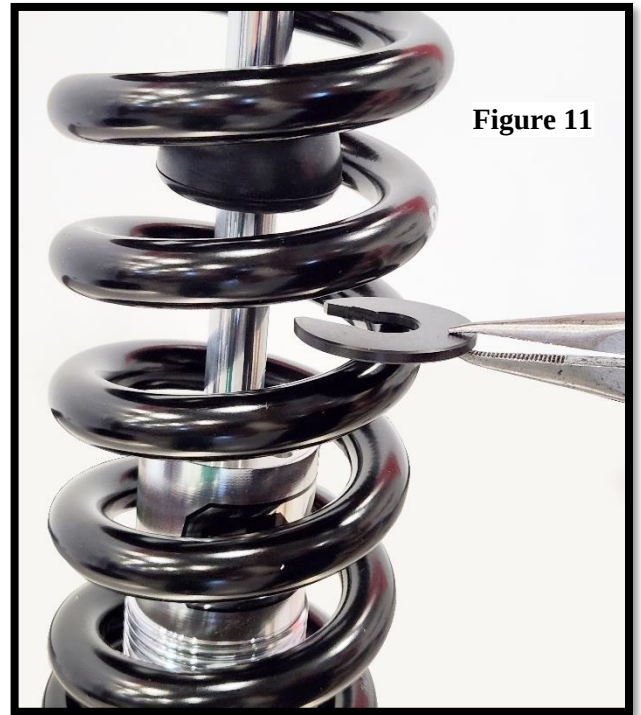
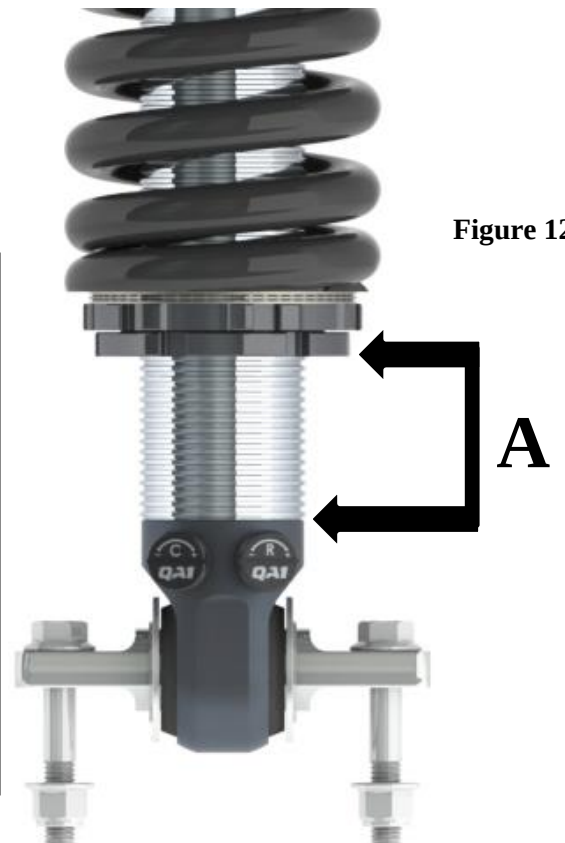

Figure 11
Figure 12
- 13) Install the appropriate amount of packer shims onto the shock rod dependent on the desired ride height. **(Figure 11)** These packer shims snap on/off the shock rod. After the final ride height adjustments are made, measure the shock at ride height using **Figure 12**. Add the corresponding packer shim thickness under the rubber bump stop to the shock length measured.